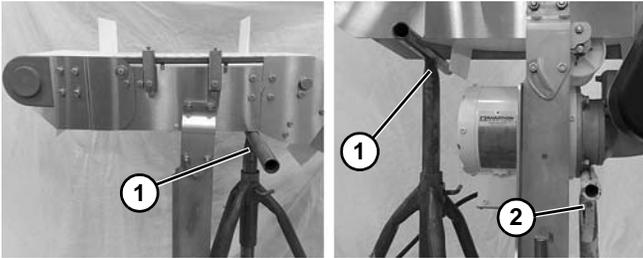

Figure 37
3. Place temporary support stands (Figure 37, item 1) at both ends of the conveyor. Place an additional support stand (Figure 37, item 2) under the drive motor, if equipped. See WARNING.